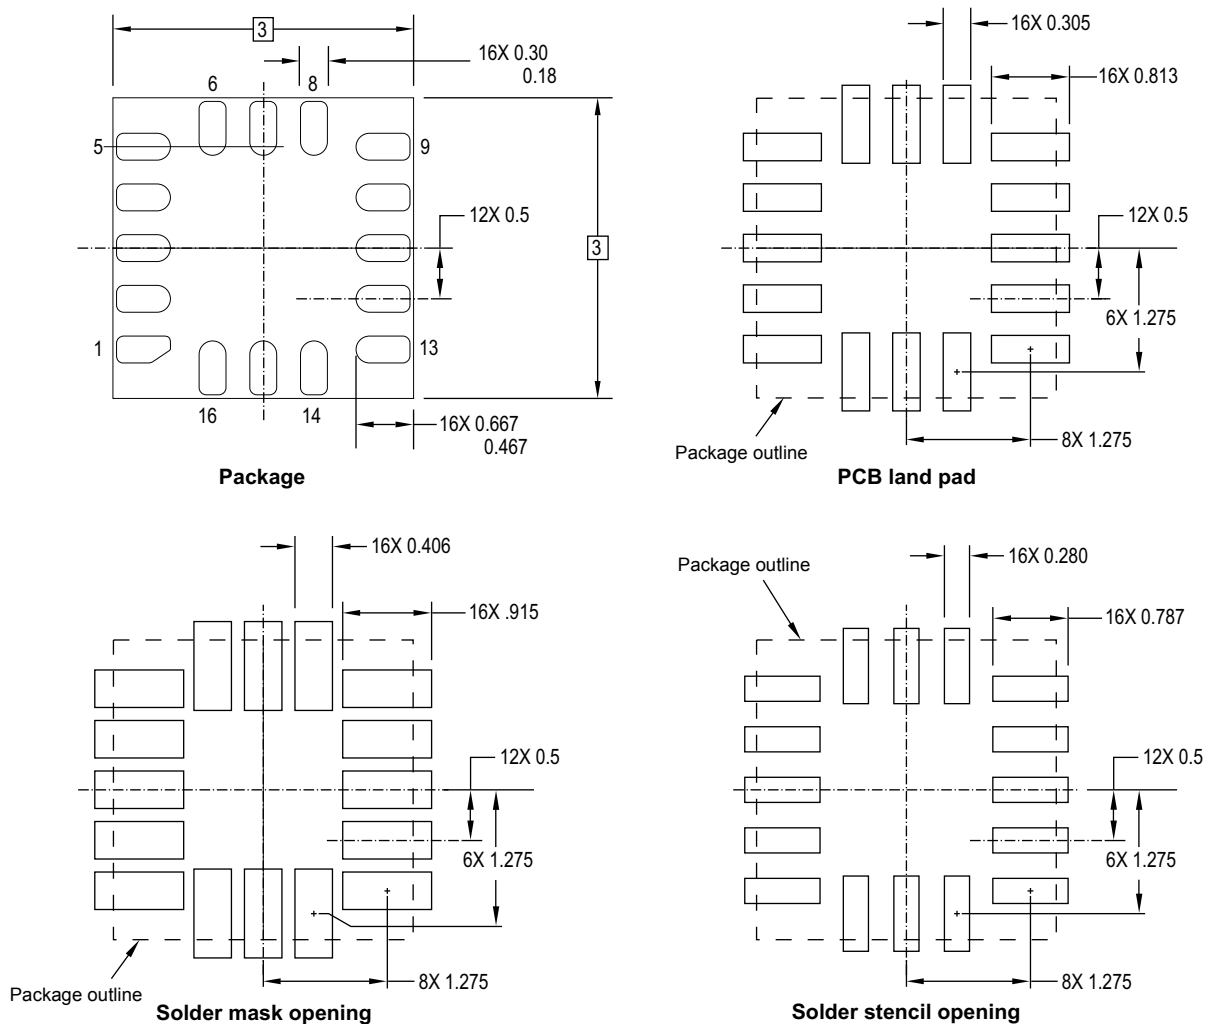

Figure 14. Footprint
The following recommendations are a guide to an effective PCB layout. See Figure 14 for footprint dimensions.
1. Do not solder down exposed pad (EP) under the package to minimize board mounting stress impact to product performance.
2. The solder mask should not cover any of the PCB landing pads, as shown in Figure 14.